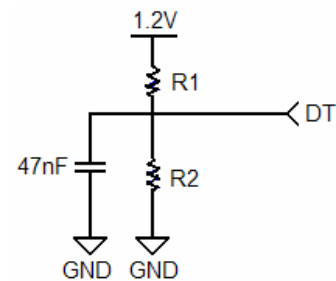
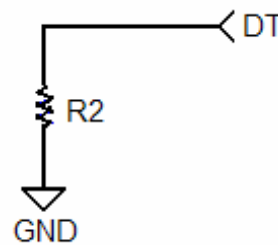

FIGURE 27A.
FIGURE 27B.
The QLx4300-S45 is capable of maintaining periods of line silence on any of its four channels by monitoring each channel for loss of signal (LOS) conditions and subsequently muting the outputs of a respective channel when such a condition is detected. A reference current applied to the detection threshold (DT) pin is used to set the LOS threshold of the internal signal detection circuitry. Current control on the DT pin is done via one or two external resistors. Nominally, both a pull-up and pull-down resistor are tied to the DT pin (Figure 27A), but if adequate control of the supply voltage is maintained to within $\pm 3\%$ of 1.2V, then a simple pull down resistor is adequate (as in Figure 27B). Resistors used should be at least 1/16W, with $\pm 1\%$ precision.
The internal bias point of the DT pin, nominally 1.05V, is used in conjunction with the voltage divider (R1 and R2) shown in Figure 27A to set the reference current on the DT pin.
For channels exhibiting more than 25dB of total loss (this includes cable or FR-4 loss) the DT pin should be configured for a reference sink current (coming out of the DT pin) of approximately 2 μ A. A typical configuration for a 2 μ A sink current is given in Figure 27C. If the configuration in Figure 27B is utilized, a 525k Ω resistor is used.